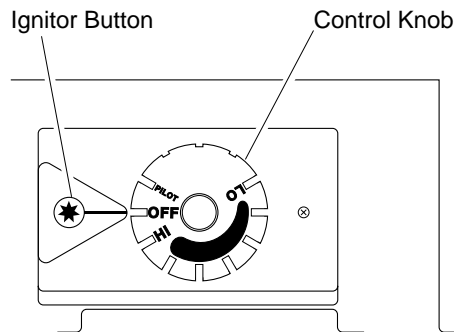

Figure 28 - Control Knob In The OFF Position
4. Wait five (5) minutes to clear out any gas. Then smell for gas, including near the floor. If you smell gas, **STOP!** Follow "B" in the safety information, column 1. If you don't smell gas, go to the next step.
5. Turn control knob counterclockwise to the PILOT position. Press in control knob for five (5) seconds (see Figure 28).